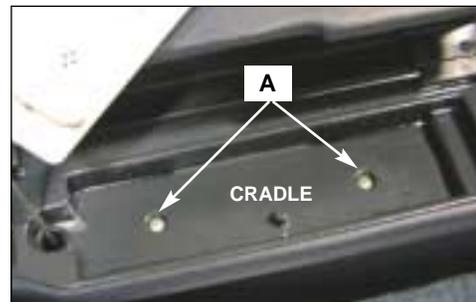

FIG. 305:
- (1) Firstly, remove control panel. To do so, remove two screws (A) under handset to free cradle (see fig. 305).